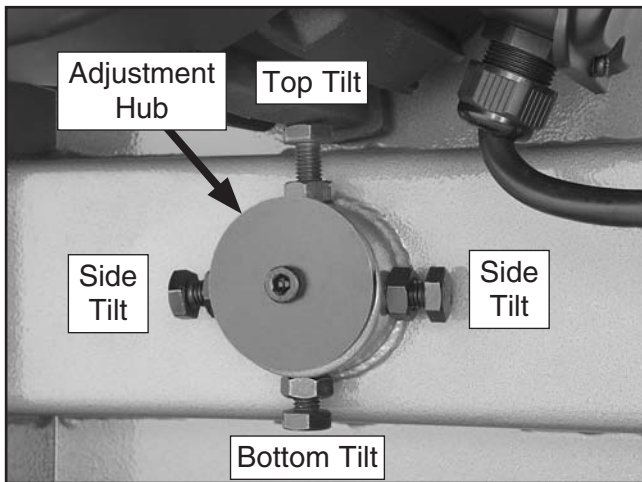

Figure 88. Lower wheel adjustment control.
2. Loosen the jam nuts on the lower wheel adjustment hub (see **Figure 88**).